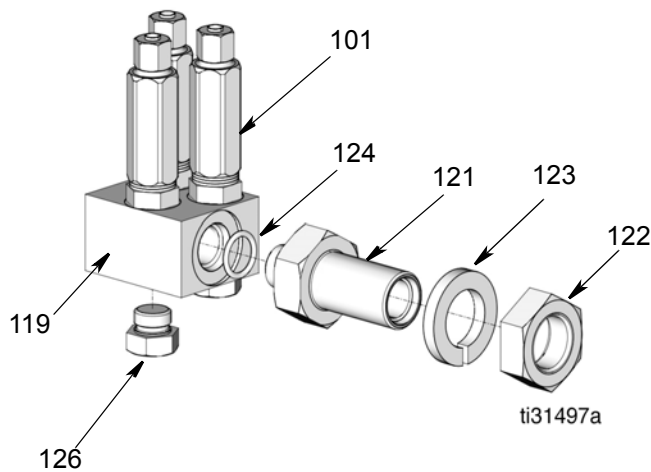
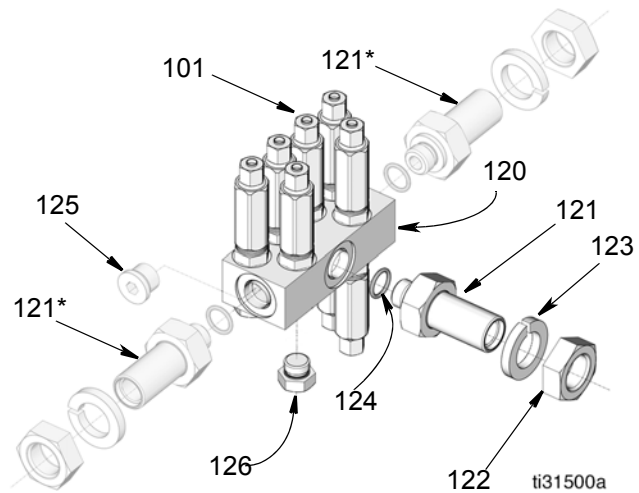
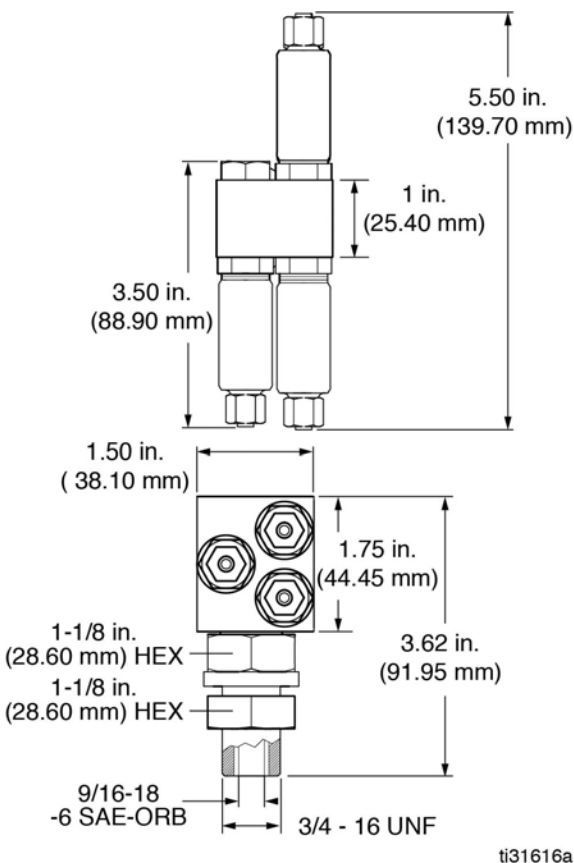

FIG. 32
FIG. 33
FIG. 34
- 6 port manifold - used in lubrication systems with 6 or less lubrication points (FIG. 32 and FIG. 34).
- 12 port manifold - used in lubrication systems with 7 to 12 lubrication points (FIG. 33 and FIG. 34).
\*In FIG. 33 the Manifold Stem (121) is shown installed in the bottom port. It can also be installed in the side ports.
1. Install the manifold stem (121) and o-ring (124) in the inlet port of the injector manifold (119 or 120) (FIG. 32 and FIG. 33, page 42).
**NOTE:** The inlet port on the 12 point manifold (120) can be installed in the side or top inlet port.
2. Use plugs (126), to block any ports not used in the injector manifold (FIG. 32 and FIG. 33, page 42). Be sure o-ring is installed on the plug. If additional lube points are needed these plugs can be removed and replaced with appropriate sized injectors and lube lines.